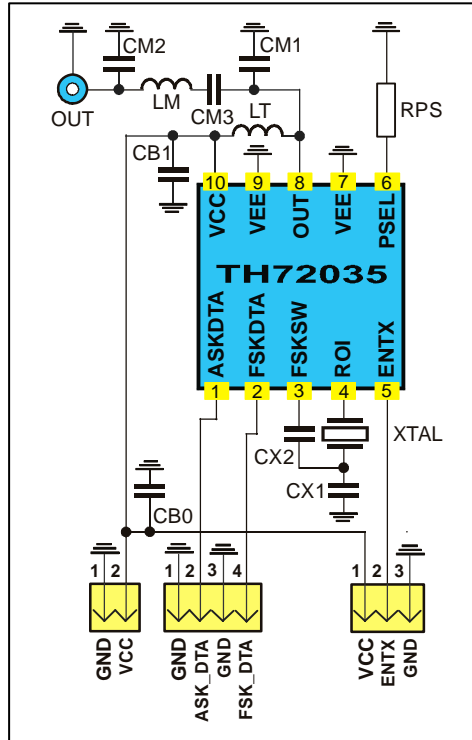

Fig. 18: Test circuit for FSK and ASK with 50 Ω matching network
typical values at  $T_A = 23\text{ °C}$  and  $V_{CC} = 3\text{ V}$ ; test circuit shown in Fig. 18,  $f_c = 868.3\text{ MHz}$
- Data according to test circuit in Fig. 18 (868.3MHz)
### 6.1 Test circuit component list to Fig. 18